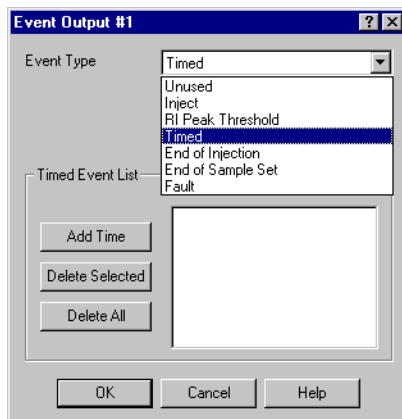

Figure 3-14 Creating a Timed Events List
- b. Select Timed from the Event Type list (Figure 3-14).